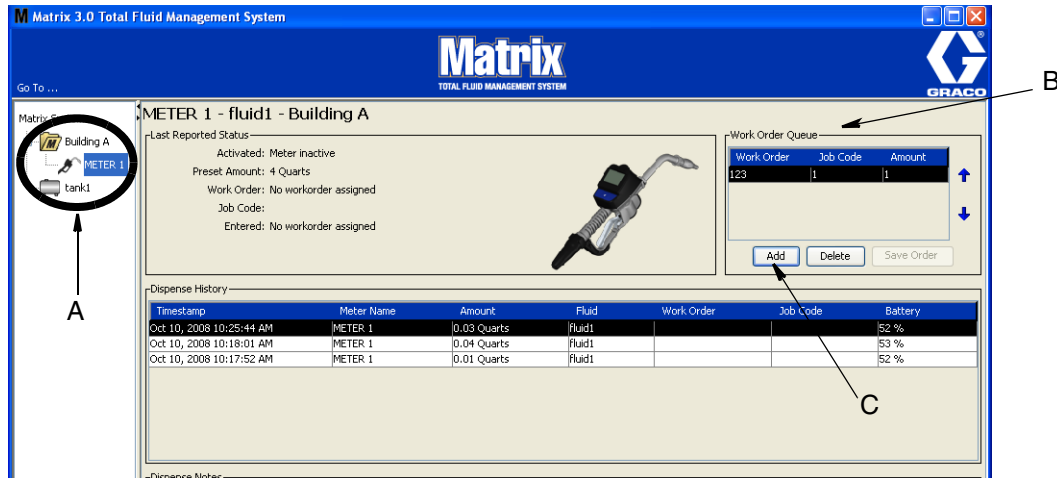

FIG. 227
1. In the System Administrator Defined Groups area of the Matrix Main Screen (A), select the meter you are sending the Work Order to (FIG. 227).
2. In the Work Order Queue section (B) of the screen click the Add button (C) (FIG. 227). A list of work orders available to that meter displays.